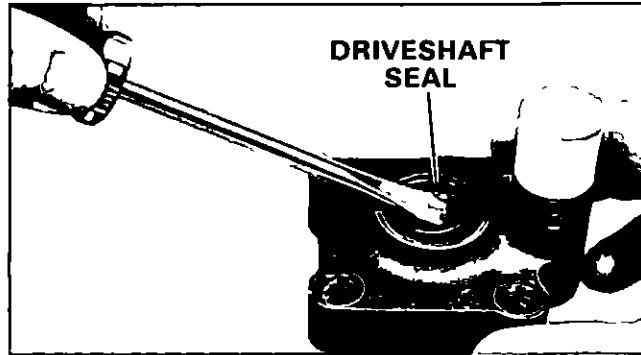

Figure 46. Removing Driveshaft Seal.
- 4 Remove driveshaft seal Figure 46